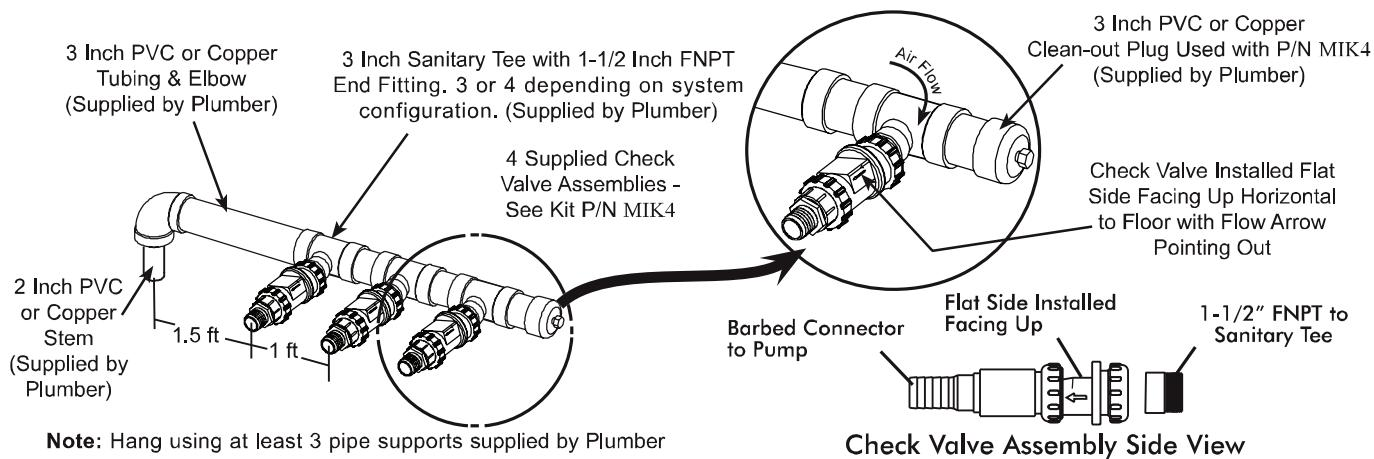

Figure 11. Pump/Tank Connection Manifold Fabrication
Installation Accessory Packs. Figure 11 shows the hose connections required for 3V5 and 4V5 MOJAVE system configuration installations using accessory packs that provide the required hoses, clamps and adapters as follows:
7. Using at least 3 pipe supports, hang the Pump/Tank Connection Manifold. See Figure 11.